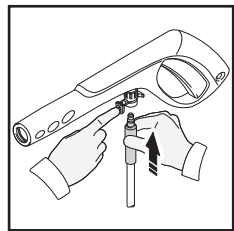

Fig. 4
- Connect the other end of the high pressure hose to the spray gun by inserting the brass metal tip of the high pressure hose into the fitting just ahead of the trigger guard. It will lock into the spray gun with a "click" (Fig. 4). Confirm the hose is locked into the spray gun by pulling slightly on the hose. The hose is now securely attached to the spray gun.